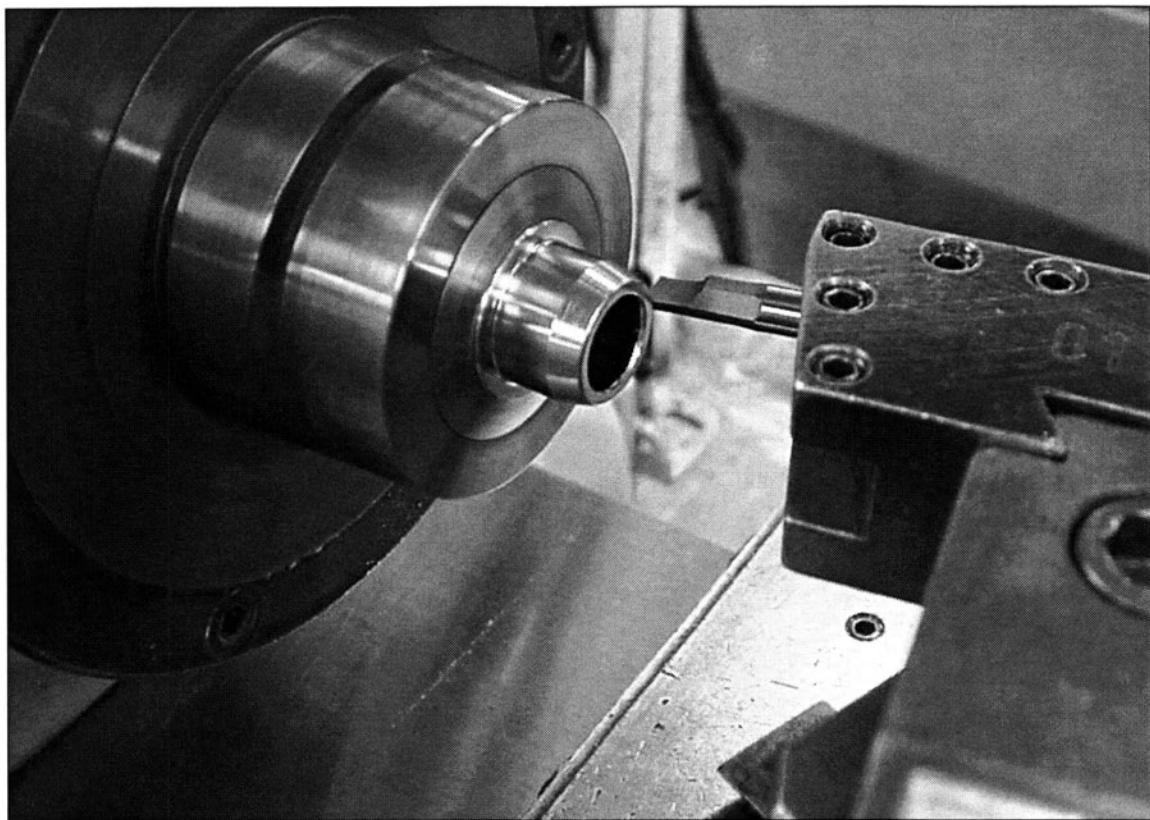

FIGURE 3-3 An angle is being cut on this part by rotating the spindle in reverse and using the lathe compound.
6. *Run a conventional lathe in reverse when cutting angles with the compound. (See Fig. 3-3)*